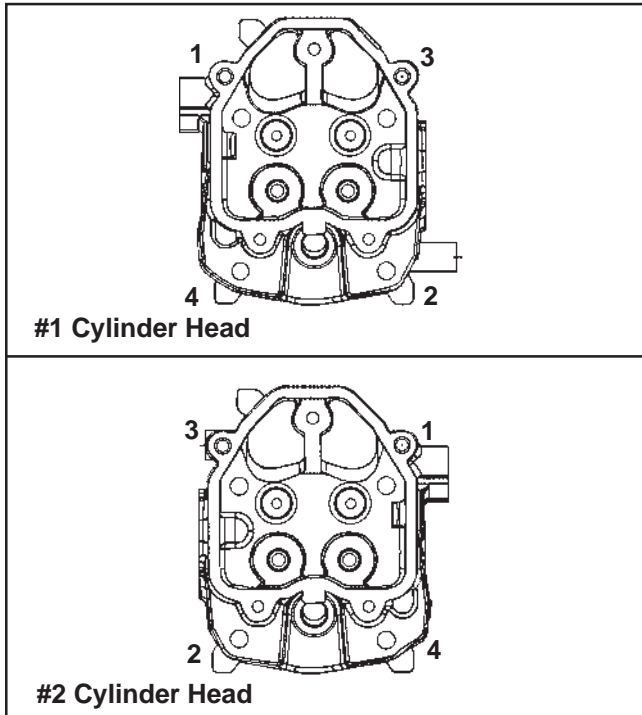

Figure 11-36. Cylinder Head Torque Sequence.
6. Torque the four hex. flange nuts in two steps, first to **16.9 N·m (150 in. lb.)** and then to **33.9 N·m (300 in. lb.)**, using the torque sequence shown in Figure 11-36.